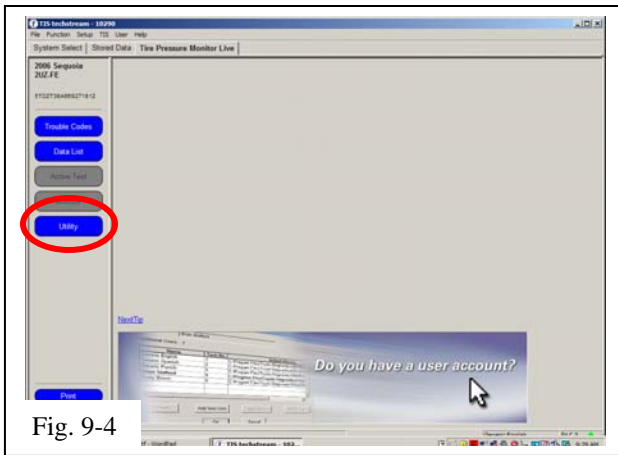

Fig. 9-4
- (g) Select “Utility” to begin input of new TPMS ID codes (Fig. 9-4)